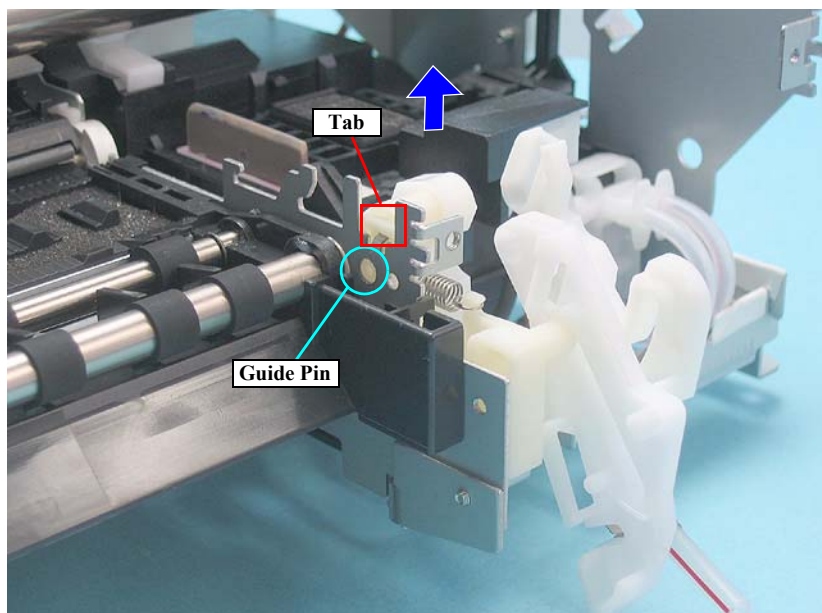

Figure 4-89. Removing the Right CD-R Release Lever Sub Assy (3)
- Align the positioning hole of the Right CD-R Release Lever Sub Assy with the tab on the Main Frame. See Figure 4-89.